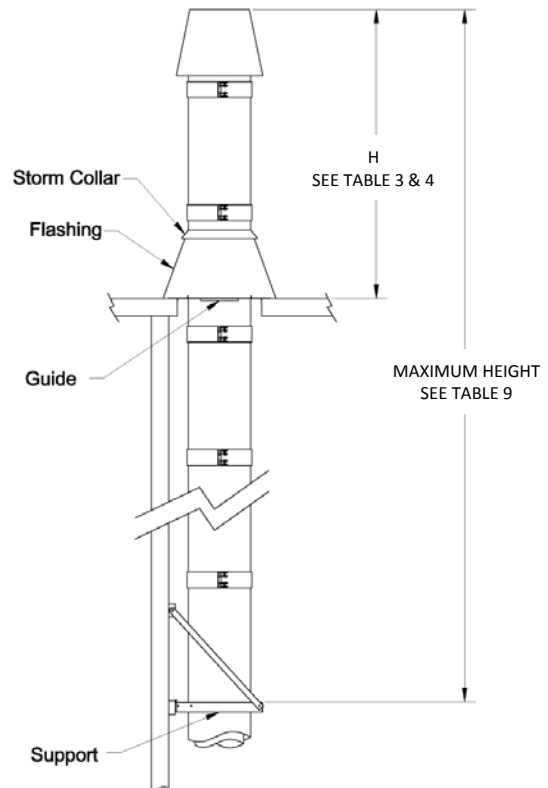

Figure 28a - Maximum freestanding Height
2. If the vent above the roof does not exceed dimension H, no special guying or bracing is required. However, to protect the flashing from lateral movement, a guide must be installed at the roof level. See **Figure 28a**)